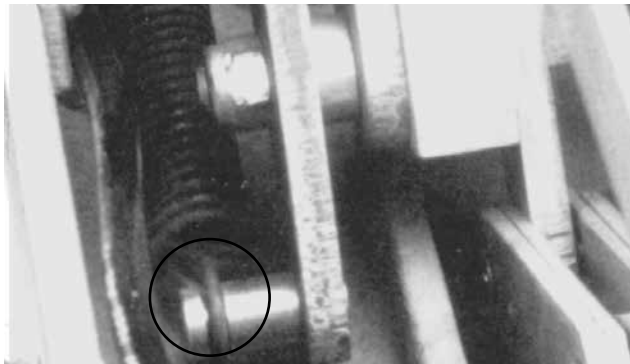

Figure 19. Spring attachment in lower part of mechanism.
1. Block mechanism with a screwdriver or other device to prevent plungers from descending into main contacts when tension is relieved (Figure 19).
2. Remove blocking mechanism (Figure 19).